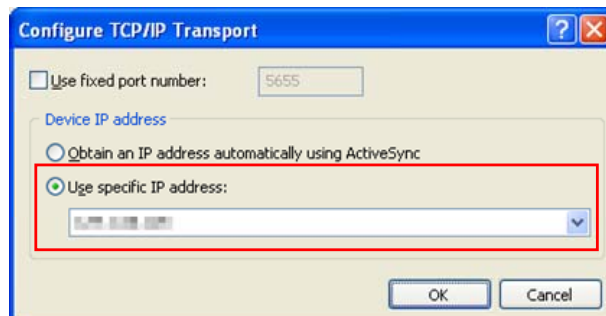

Figure 5.10
6. Click **Transport:** to access **Configure...** and set up **Device IP address** as shown in Figure 5.10.